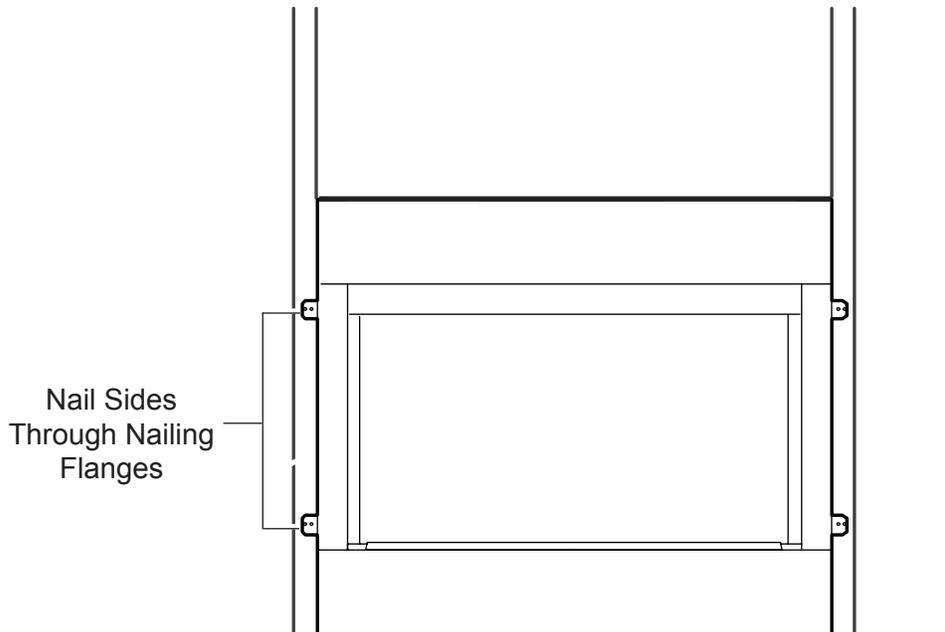

Figure 14 - Location of Nailing Flanges
4. Anchor firebox to the side framing members using 8d nails or other suitable fasteners. See Figure 14.
A canopy is furnished with each firebox and **MUST** be installed for safe operation. See *Figure 14*.